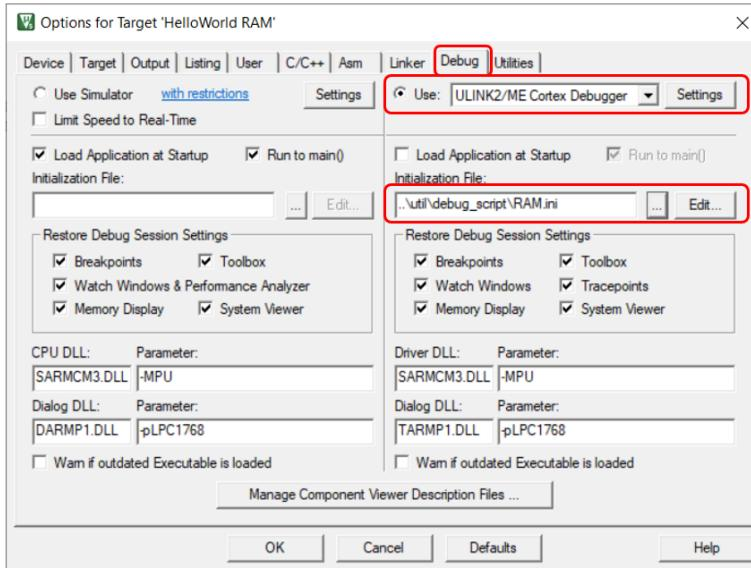
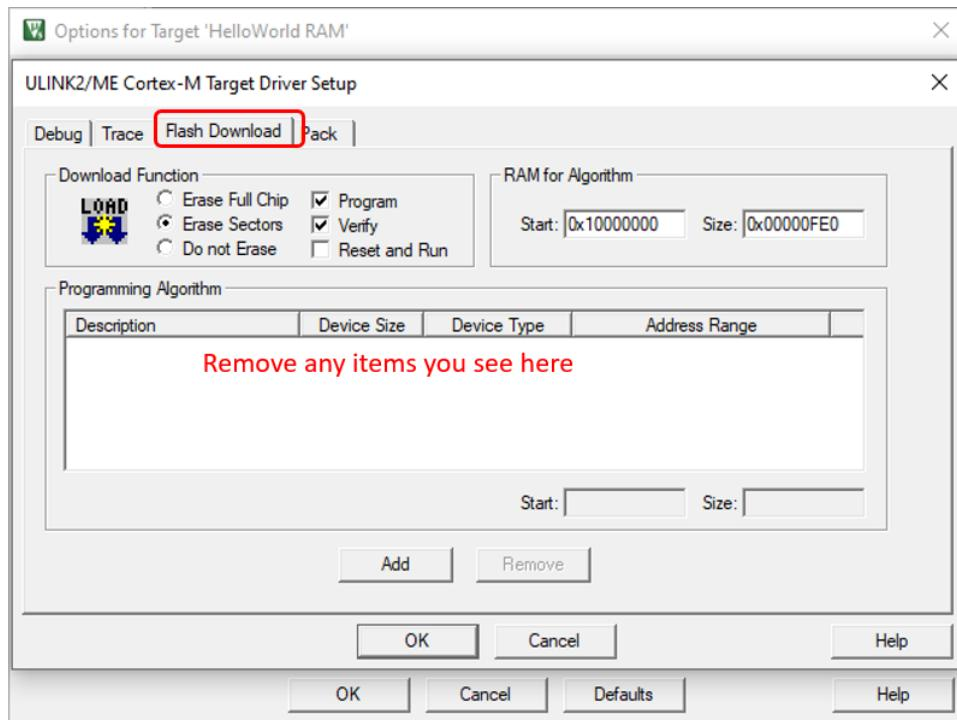

Figure 8.29: Keil IDE: Configure ULINK-ME Hardware Debugger.
Figure 8.30: Keil IDE: Flash Download Programming Algorithm Configuration.
5. Select the ULINK2/ME Cortex Debugger in the target options Debug tab and use an debug script RAM.ini provided in the starter code (See Figure 8.29) as a initialization file. An initialization file RAM.ini (see Listing B.1 in Appendix B) is needed to do the proper setting of SP, PC and vector table offset register.
6. Press the settings button beside the ULINK2/ME Cortex Debugger (see Figure 8.29) and select the Flash Download tab (see Figure 8.30). Remove the LPC17xx